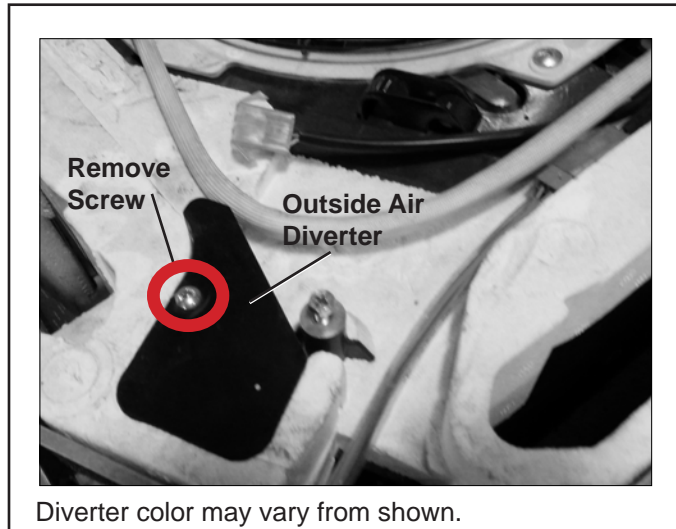

Figure 14. Typical Outside Air Diverter
2. Remove the plastic outside air diverter by unscrewing the screw shown in Figure 14.
4. Reinstall air diverter using the screw removed in step 2. See Figure 14.